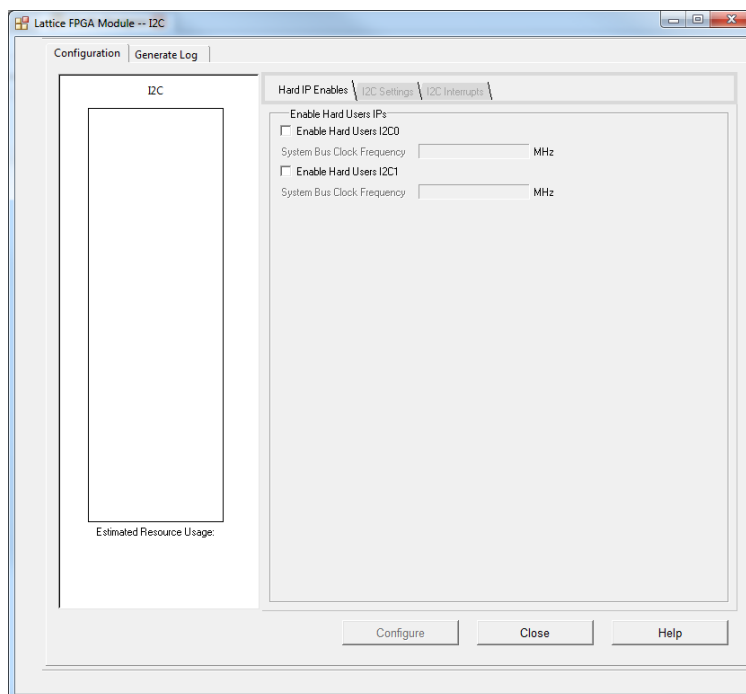

Figure 3.2. Enabling Hard I²C IP Blocks
2. Click **i2c**. The Lattice FPGA module – I2C window appears as shown in Figure 3.2.